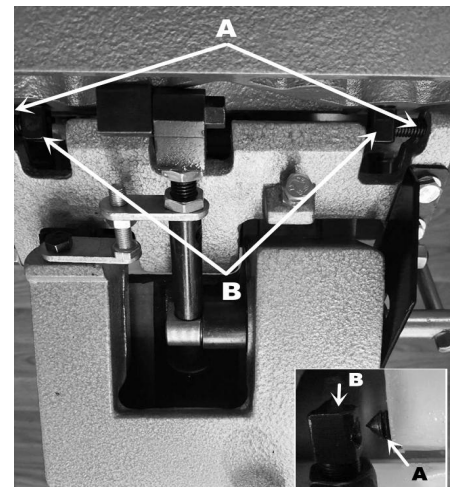

Figure 7
4. Loosen the two cone screws on the fence carriage (A Fig. 7), line up with the two cone nuts on the fence (B Fig. 7).
5. Tighten cone screws while adjusting the flexibility of the fence by tilting th fence. When the fence is secured and also properly flexibe, tighten the nut on cone screws(Fig. 7).